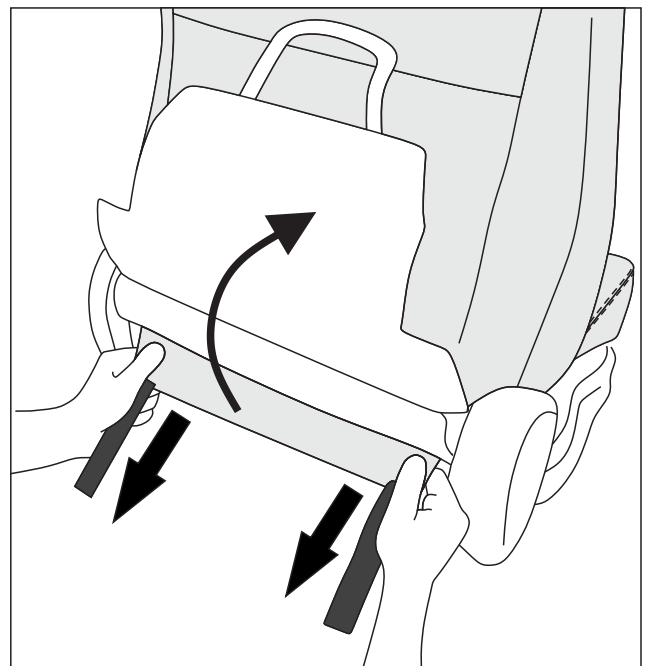

Fig.7
Be careful not to pull from the soft loop tapes as it may cause the stitching to break (Fig.7).
9. Where possible, tuck the sides of the base cover in-between the seat base and plastic trimming surrounding the base (Fig.7).